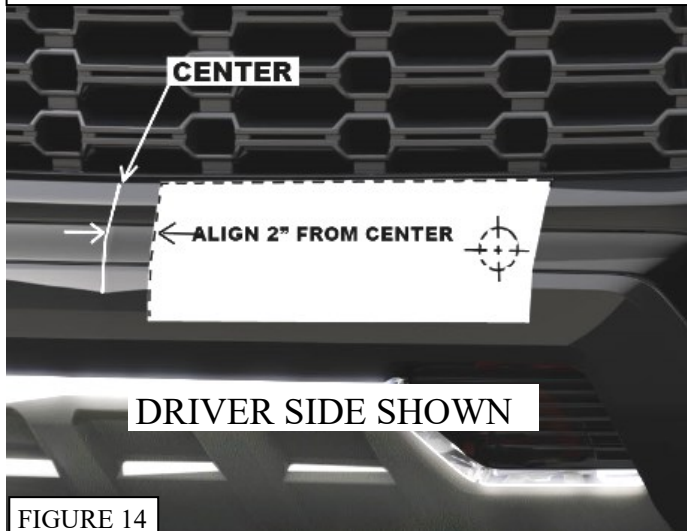

FIGURE 14
18. Using the provided template (20 & 21), cut at the dotted lines and place the indicated side at 2" from the center of the fascia and the top edge at the lower edge of the grill, carefully drill a 2" hole at each side of the fascia. (**Figure 14**) Carefully clean the hole edges.